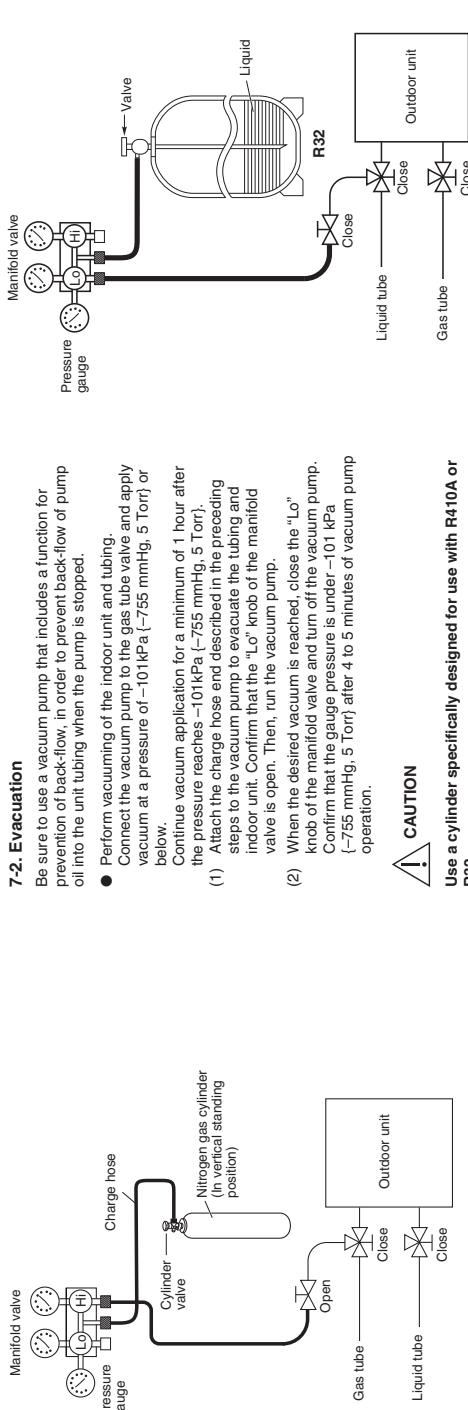

Fig. 7-1
- Charge additional refrigerant (calculated from the liquid tube length as shown in "7-4. Tubing Size") using the liquid tube service valve. (Fig. 7-1)